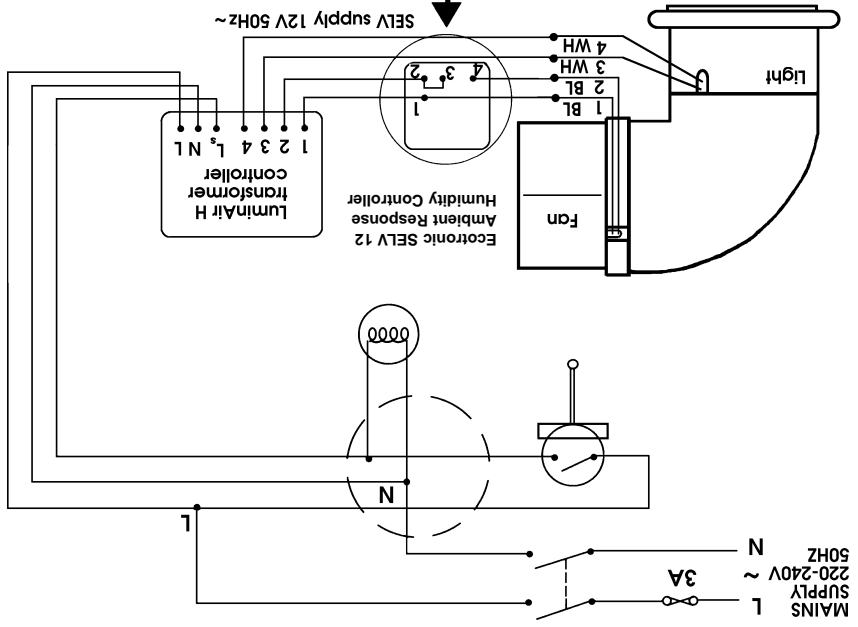

fig. 5 PERFORMANCE
- 3.2 Site away from direct sources of heat. Do not site in areas containing excessive levels of grease. If the LuminAir is installed in a room containing a fuel burning appliance the installer must ensure that air replacement is adequate for both the fan and the fuel burning appliance (Please refer to fig. 5 for performance details).